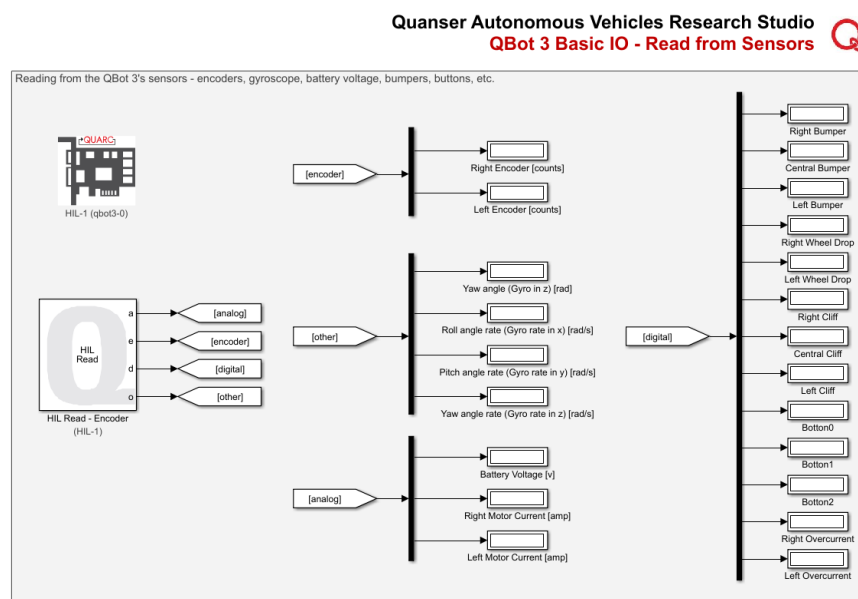

Figure 1: Read\_Sensors.slx model
1. Under the Guides and Resources > Basic IO > QBot 3 > Software folder, open Read\\_Sensors.mdl (Figure 1)